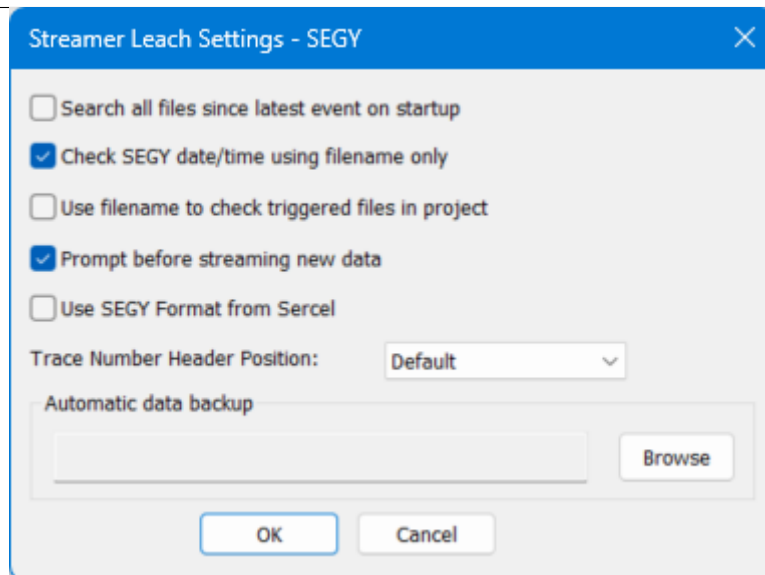

Figure 13-17: Further settings to control the SEGY data to be leached.
- (b) If the file type is SEGY or MIRF, the user is also able to make further selections to control the data to be leached. The 'Settings' button becomes active, and when pressed launches a Dialog (Figure 13-17).